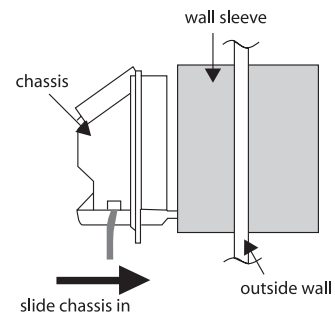

Figure 14. Slide unit chassis into the wall sleeve
- Slide the chassis into the wall sleeve until the chassis flanges contact the front edge of the wall sleeve. See Figure 14.